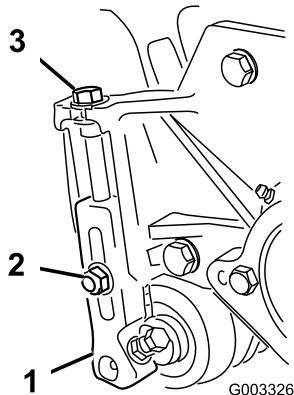

Figure 21
1. Loosen locknuts securing height-of-cut arms to cutting unit side plates (Figure 21).